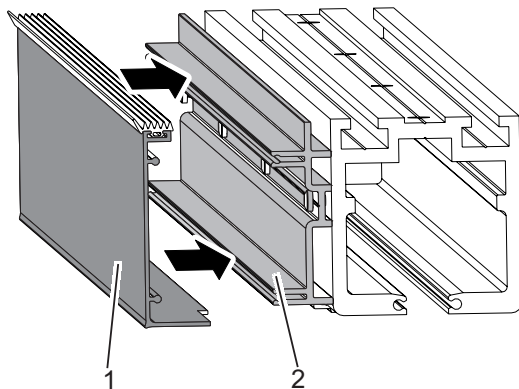

Fig. 43: Attaching the cover
5. Attach the cover (Fig. 43/1) to the plastic element (Fig. 43/2).
1. Loosen the screws (Fig. 43/1).
2. Push or pull the brushes (Fig. 43/1) for the adjustment.
3. Retighten the screws (Fig. 43/1).
2. Lift the fixed panel (Fig. 43/1) with the fixed panel holders (Fig. 43/2) evenly from the track at the resultant gap (Fig. 43/3) and the bottom rail.